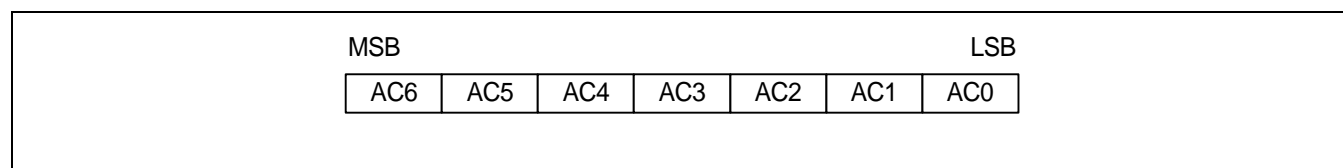

Figure 1. DDRAM Address
DDRAM stores display data of maximum 80×8 bits (80 characters). DDRAM address is set in the address counter (AC) as a hexadecimal number. (refer to Figure 1.)